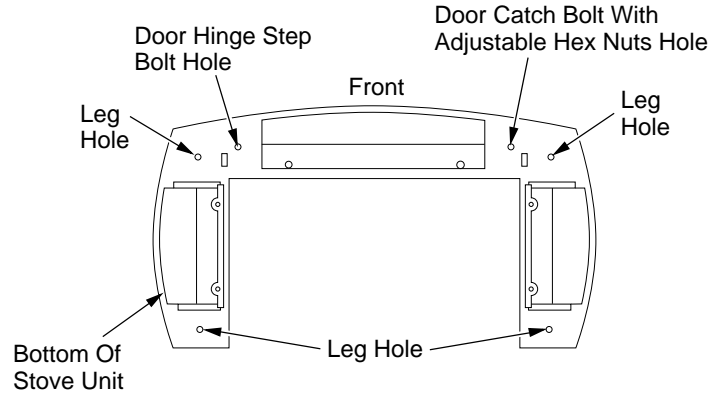
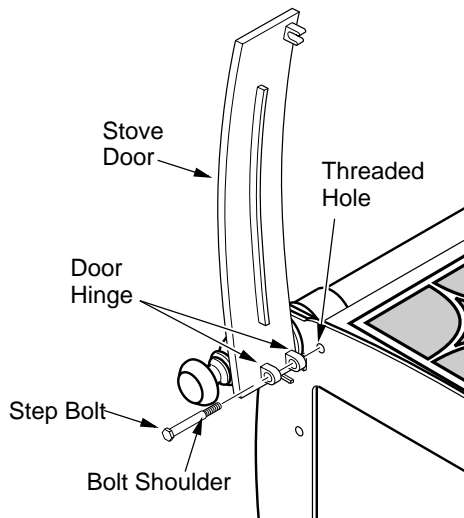
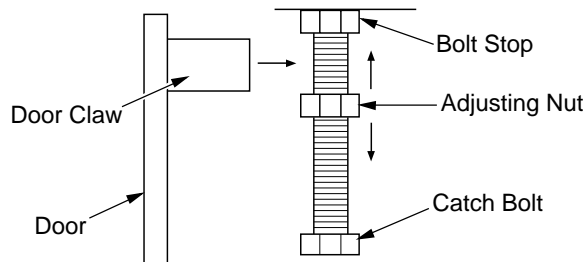

Figure 9 - Locating Threaded Holes for Legs, and Door Attachment
Figure 11 - Attaching Stove Door
Figure 12 - Catch Bolt and Door Claw Orientation
8. Fasten each leg to stove with four (4) M8 x 1.25 - 20mm bolts. Use a flat washer and lock washer with each bolt. Tighten bolts into threaded holes on stove body (see Figures 9 and 10). Use an adjustable wrench or a 12mm socket.
9. Attach stove door by inserting step bolt through door hinge pivot hole and into threaded hole in stove body (see Figure 9 and Figure 11 on page 7). Use an adjustable wrench or a 12mm socket to fasten step bolt. Tighten step bolt until snug. Make sure door moves freely.
10. Install door catch bolt (M8 x 1.25-55mm with two M8 hex nuts) into threaded hole on stove body (see Figure 9, page 6). Use an adjustable wrench or a 12mm socket. The catch bolt has two hex nuts attached to it (see Figure 12). The top nut is a bolt stop and the bottom nut is for door leveling adjustment.